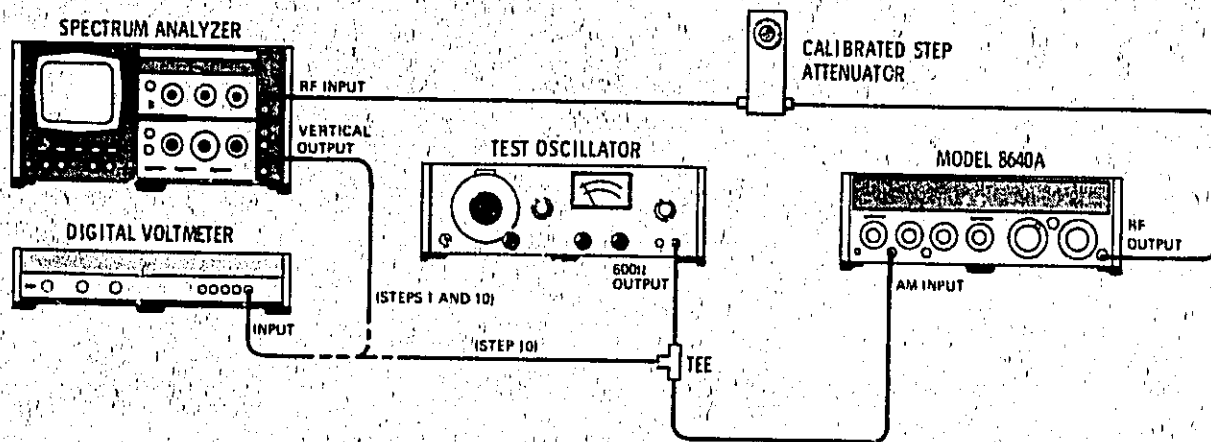

Figure 5-3. AM Sensitivity Adjustment Test Setup
1. Connect equipment as shown in Figure 5-3 after setting Signal Generator's controls as follows: